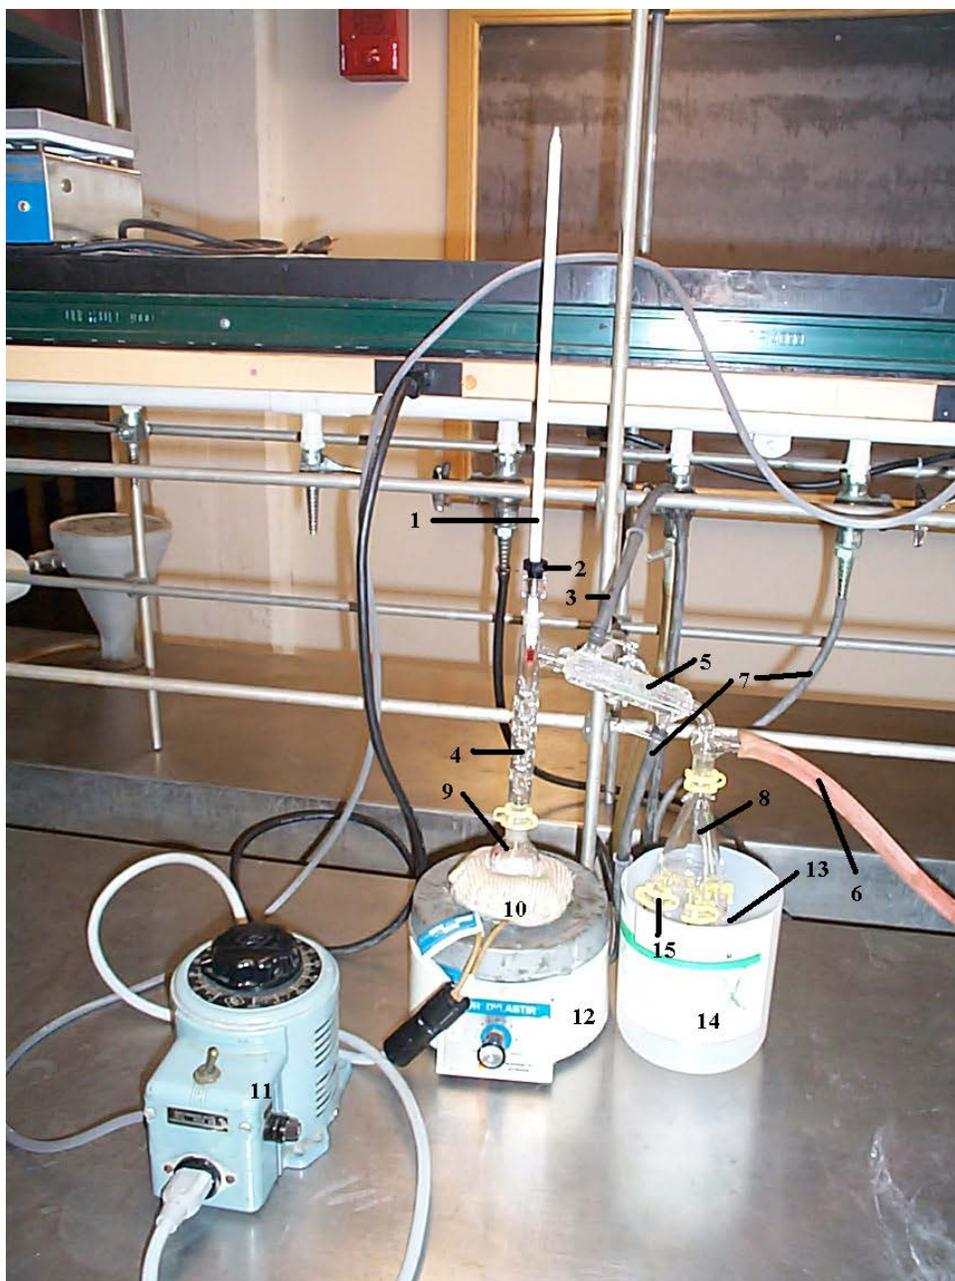

Figure 2. Apparatus used for Vacuum Distillation
Before setting up the glassware as shown in Fig. 2 have your teaching assistant demonstrate how to connect to the vacuum pumping manifold. You should be able to reduce the pressure to 1-2 Torr (or less) in a closed system. At the pressure achieved, calculate the temperature at which the limonene and carvone should distill over. Carefully assemble the glassware as shown in Fig. 2. **Lightly grease all joints as demonstrated by your TA.** Be sure to include a heating mantle, a stirring plate and an ice-bath in the setup. **Do not proceed until your TA has checked your setup. Test the vacuum on your system for any leaks without adding sample to the round bottom flask. Why is this important?**
- Check if the water-in and water-out connections are set correctly (see Fig. 2) and secured with the wire tubing clamp. Make sure you are using water tubing not vacuum tubing.